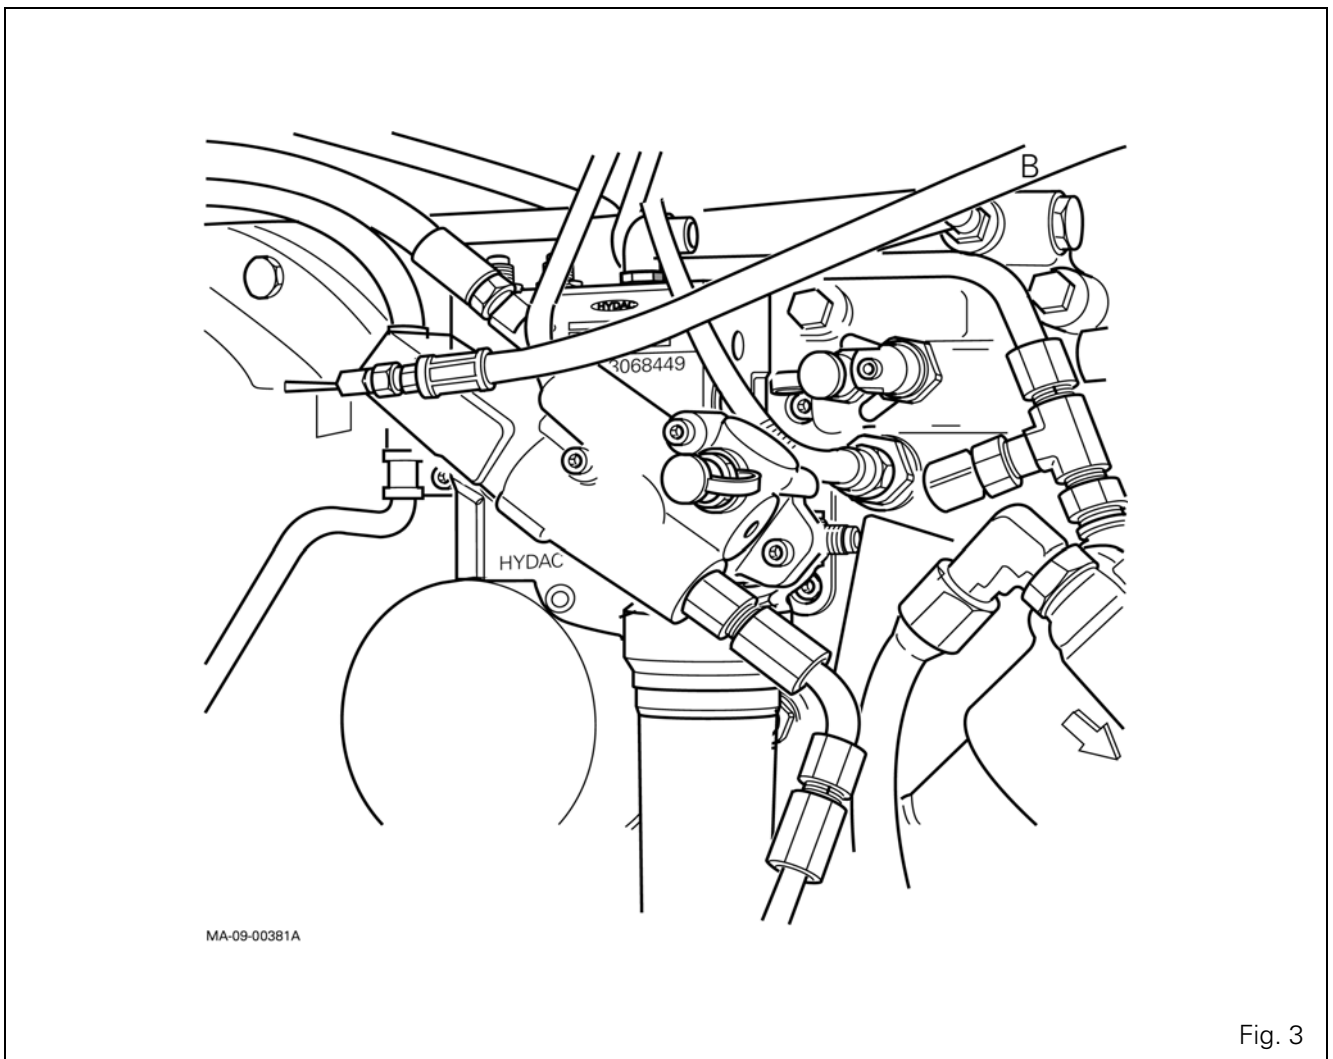

Fig. 3
If the removal of the valve does not concern its replacement, do not disconnect the hose (B) (Fig. 3) from the master cylinders, in order to avoid draining the system.
Removal (Fig. 3)